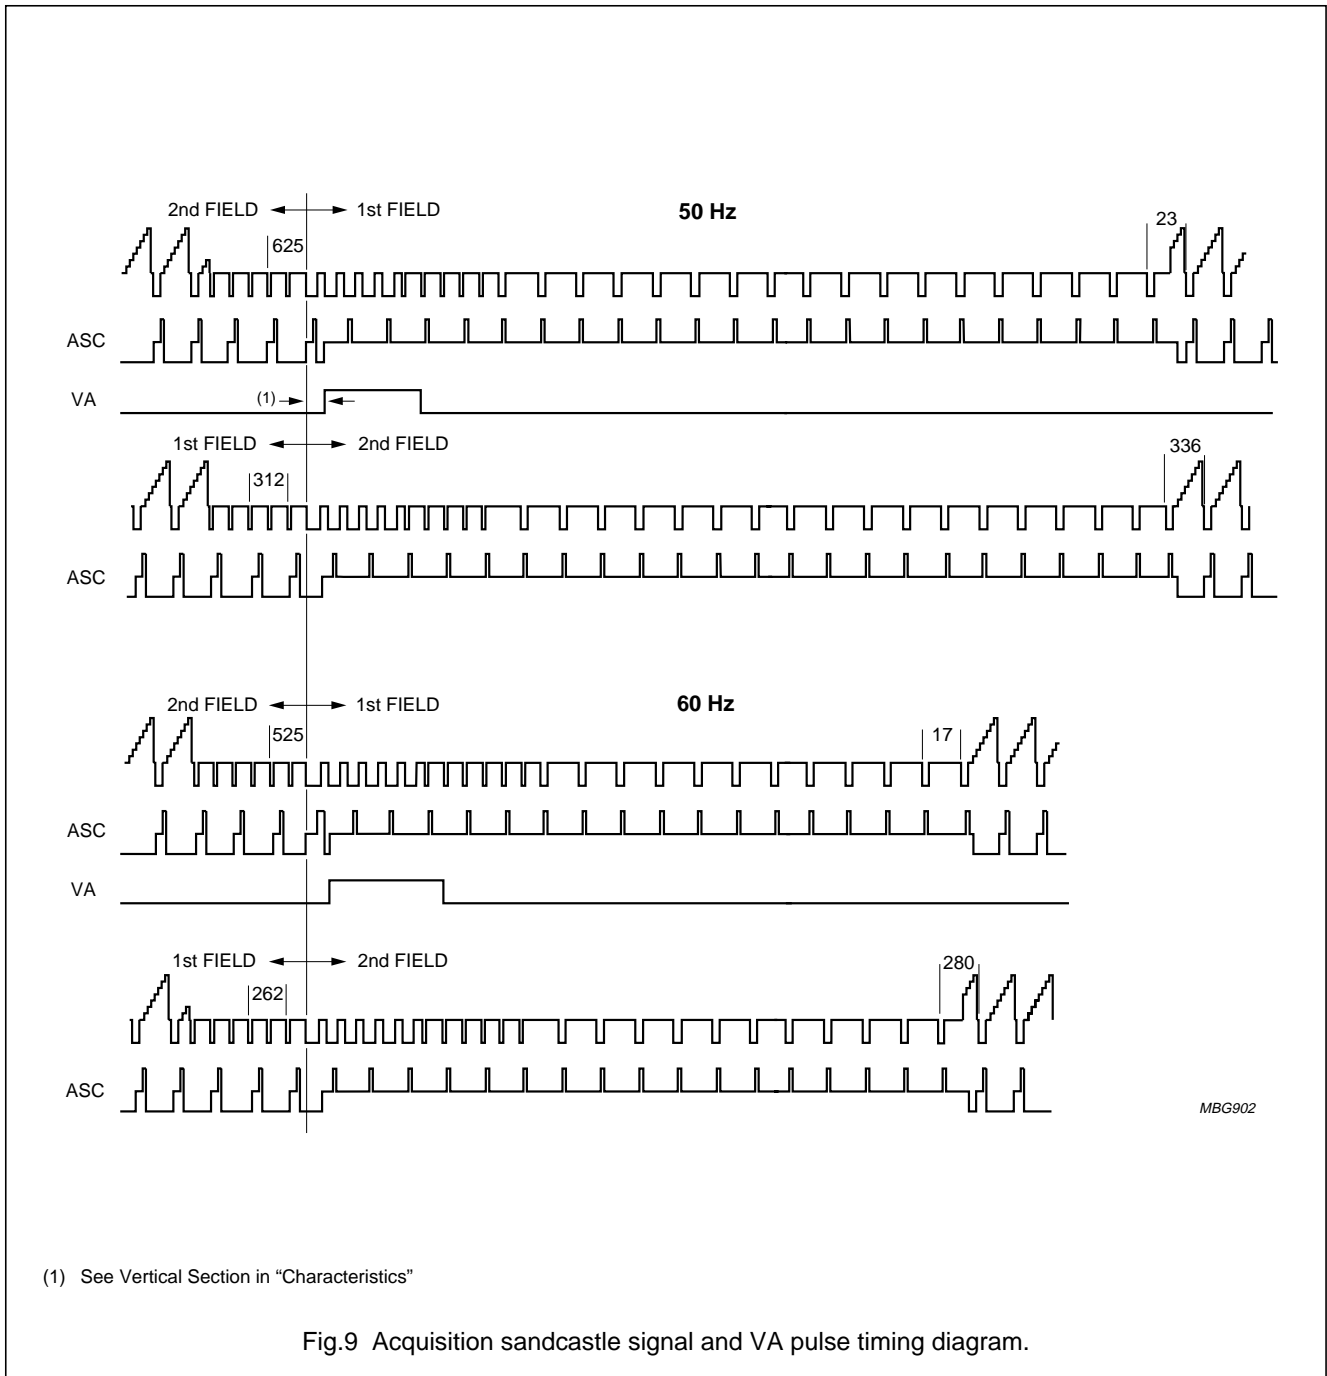

Fig.9 Acquisition sandcastle signal and VA pulse timing diagram.
(1) For system M the line numbers start with the first equalizing pulse in field 1, but the internal line counter starts counting at the first vertical sync pulse in field 1. This line number notation is used here and in Fig.9.
Figure 9 illustrates the timing of the acquisition sandcastle (ASC) and the VA pulse with respect to the input signal. The sandcastle signal is according to the two-level 5 V sandcastle format. An external vertical guard current can overrule the sink current to enable blanking purposes.